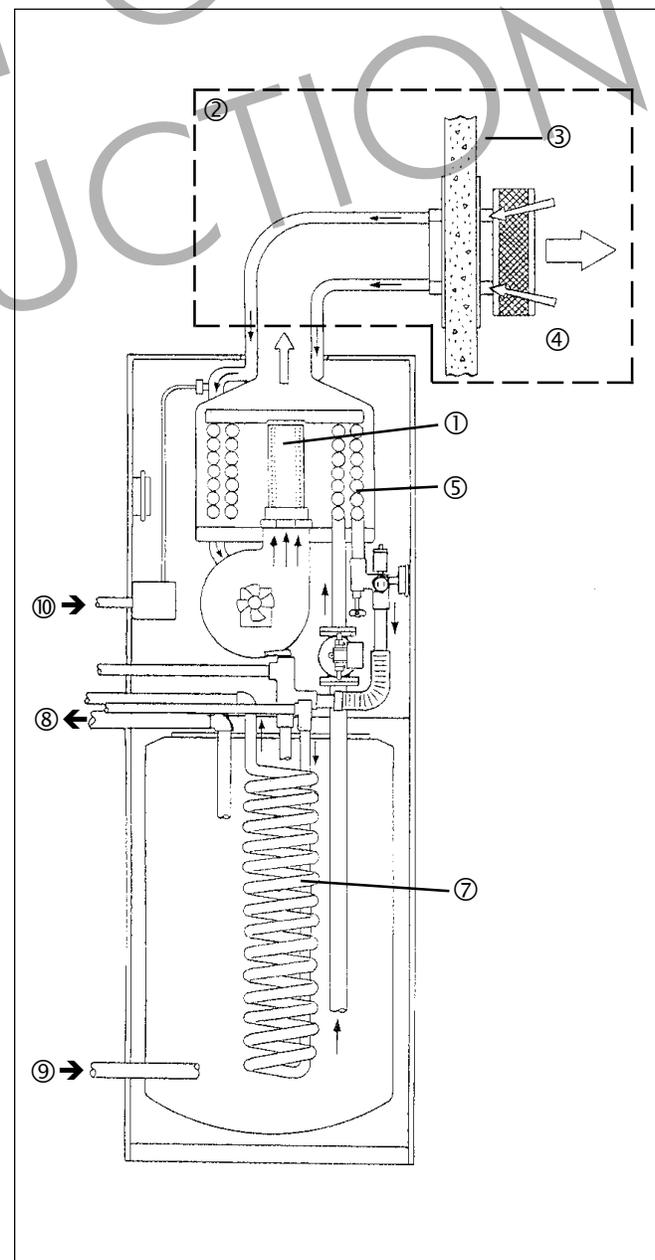

Figure 1. HW-M2.
10. Gas Supply (\*see Figure 1)